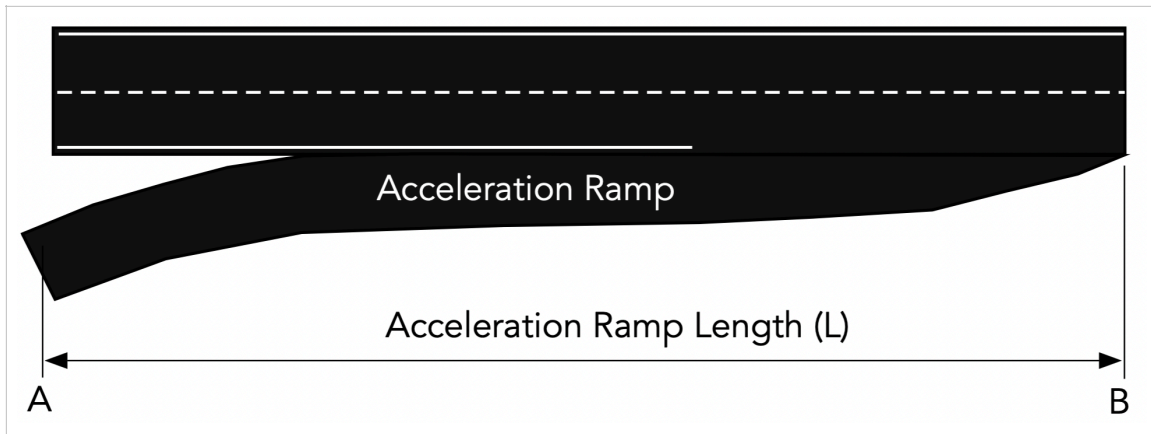

Figure 1. Highway Ramp Scenario for Problem 1.
A civil engineer is designing acceleration ramps for a new highway. Figure 1 shows the typical acceleration ramp configuration. The highway is used by a variety of vehicles including cars, light trucks, and heavy trucks. The engineer collected data about three types of vehicles to design the acceleration ramp (L) shown in Figure 1.
Use the heavy truck and mid-size sedan car parameters to estimate the distance (L) between points A and B in Figure 1 allowing the vehicle to reach a top speed of 30 m/s (~ 65 mph) at the merging position B. Present both estimates running the model with the appropriate values of k_1 and k_2 . Assume the vehicle initial speed at point A is 5 m/s (low speed).